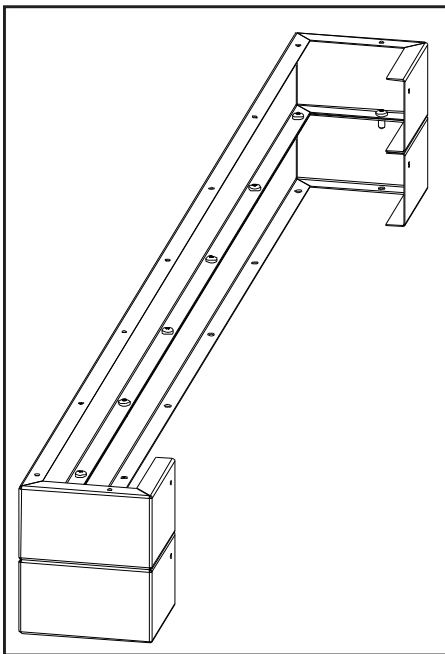

Figure 36: Combining 2 Base Shelf Risers.
2. When using more than one riser each level must be attached using nine (9) #8 T-20 screws provided (see Figure 36).